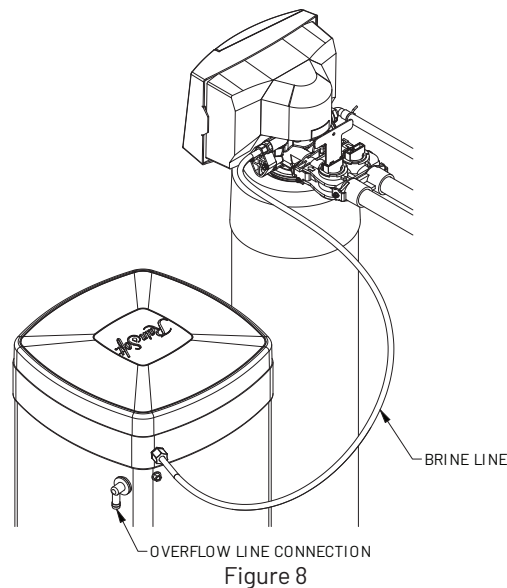

Figure 8
- Slide the brass compression nut over the end of the brine line, followed by the ferrule and tube support. Attach the brine line to the brass fitting on the right side of the valve (see figure 8).
- Insert a tube support into the other end of the brine line and push the brine line into the brine safety float elbow. Use a locking clip to secure the connection (see figure 8).
- Run a 1/2 inch I.D. brine overflow line from the overflow elbow on the side of the brine tank to an approved drain (see figure 8).